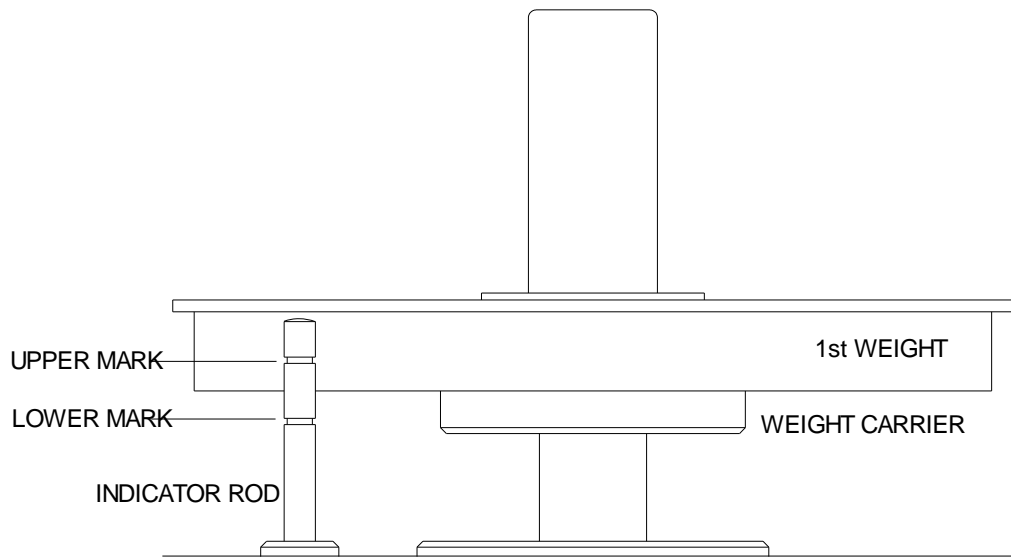

FIGURE 3
6. Apply pressure by turning the capstan clockwise until the weight floats with the lower edge of the first weight aligned between the upper and lower red marks on the indicator rod (see Figure 3).
7. Apply pressure by turning the capstan clockwise until the weight stack floats with the lower edge of the first weight aligned between the upper and lower red marks on the indicator rod (see Figure 3).